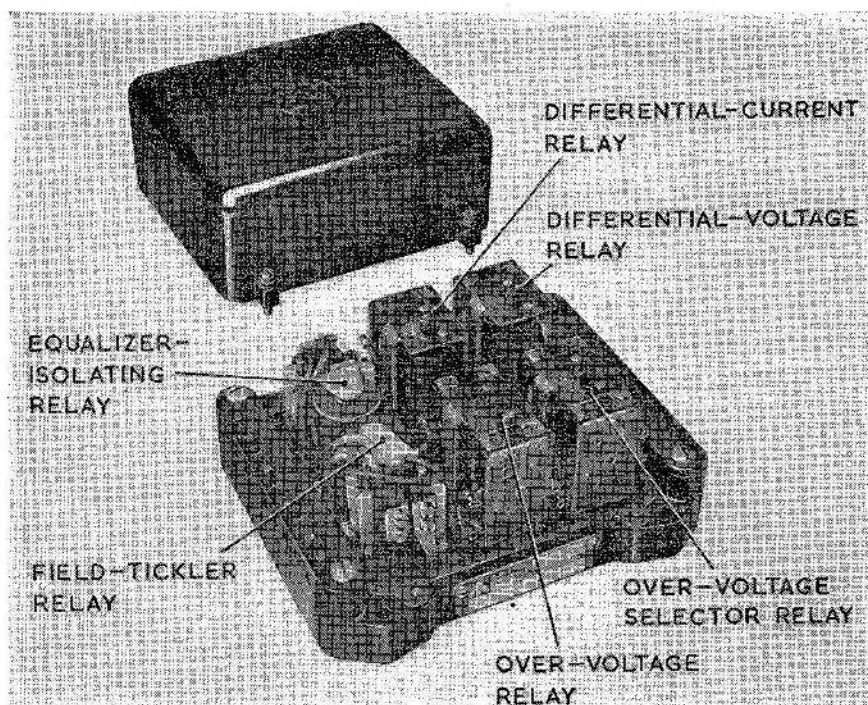

Fig. 1. Control switchbox, Type 1B
3. The control switchbox (fig. 1) consists of a moulded base, a moulded top cover and a base cover plate. Mounted on the base are six relays as listed in Table 1, flanked by a pair of terminal blocks moulded integral with the base. Each terminal block houses nine 4 B.A. terminal screws, the heads of which are protected by a cover strip secured to the block by a pair of screws. Enclosing the relays is the top cover, tapped inserts to the base taking its four securing screws.